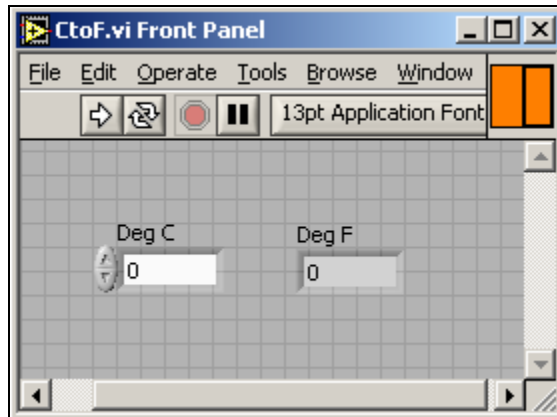

Figure 2.1: Front Panel for Celsius to Fahrenheit VI
- ix. The VI should look similar to Figures 2.1 and 2.2 on top of the next page: